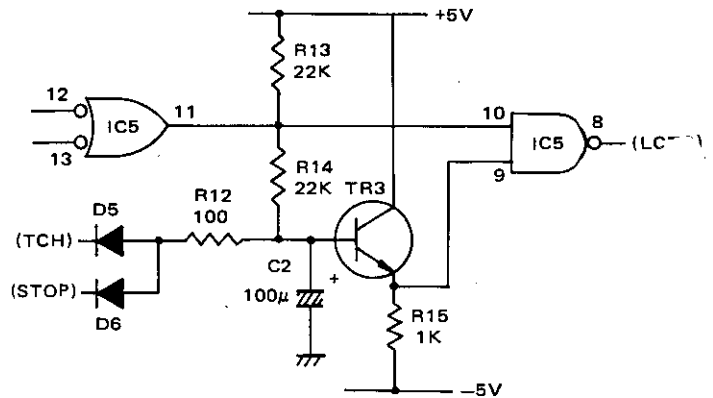

Fig. 4 Delay circuit for coincidence signal
The tonearm travel stops when it reaches the ordered position, either the preset locate position or the arm rest. As described earlier, when the tonearm reaches the above position, the coincidence signal is provided. Accordingly, Pin ① of IC5 becomes high level which is in turn fed into Pin ⑩ of IC5 in Fig. 4. However, by TR3 and the capacitor C2 at its base, charging voltage (base voltage of TR3) gradually increases in a time determined by the time constant of the circuit. If the coincidence signal is sustained for a certain period of time, the emitter voltage of TR3 reaches high level and after that, a signal is obtained at Pin ⑧ of IC5 indicating that the tonearm position coincides the ordered position. By this signal, both memory circuits, LCT_{FF} and CUT_{FF} is simultaneously reset for descending the tonearm and the automatic function is completed.